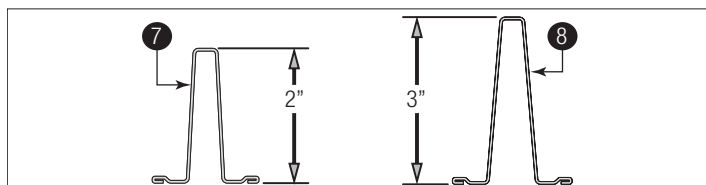

Figure 19
**IMPORTANT:** All struts (1) are placed at the top of the sections and up against the bottom of hinges (2), for the Bottom Section (3), Lock (Second) Section (4), and Intermediate Section(s) (5, 6).
**IMPORTANT:** Measure the height of your strut(s) to determine if you have 2" Struts (7) and or 3" Struts (8). See Figure 19.